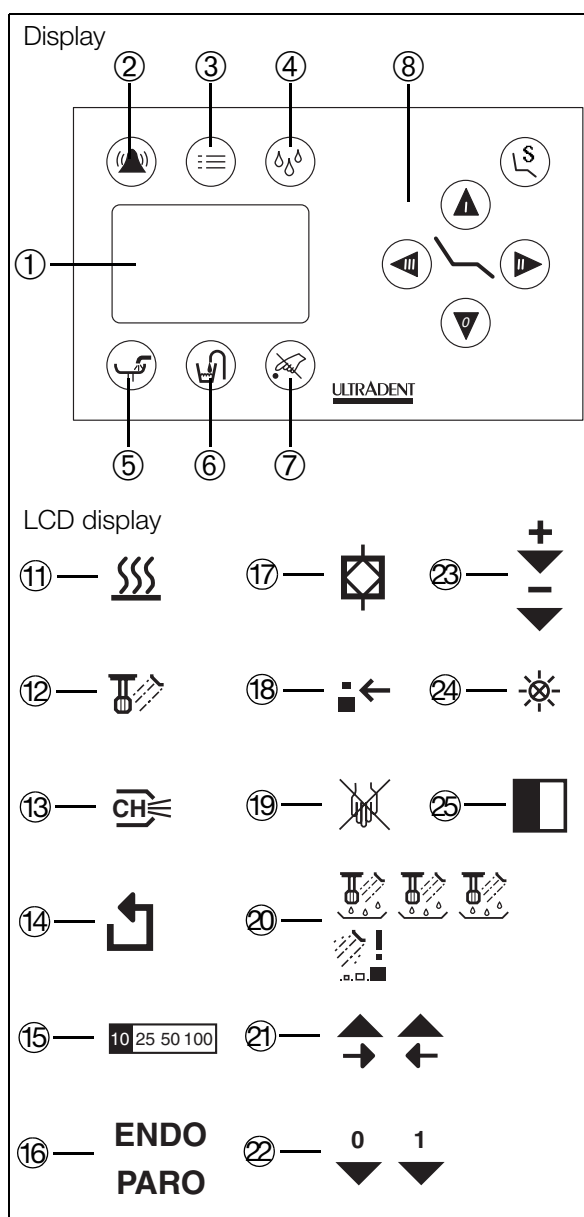

Fig. 86
- Then press the menu key ③ (Fig. 86).
- Keep tapping on the right-arrow ㉑ (Fig. 86) touch key until the symbol ⑱ (Fig. 86) appears.
- By tapping on the touch-keys marked with the symbols ㉒ (Fig. 86), you can activate the additional device until a 1 appears. The additional device is then active and can be operated via the foot control. Tapping again causes the 0 to reappear, and the additional device is switched off.
- You return to the main menu by pressing the menu key ③ (Fig. 86).